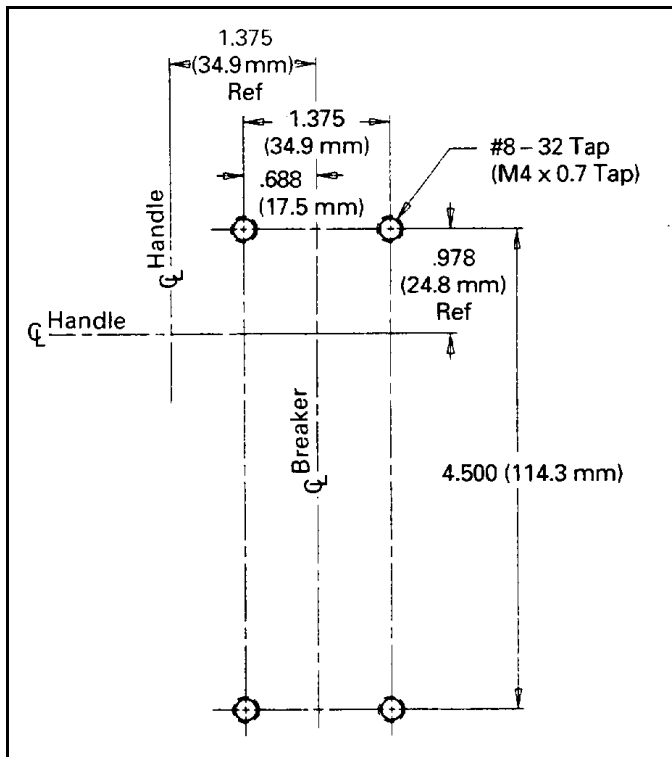

Fig. 2-1 Drill & Tapping Plan for F-Frame Breaker
1. Determine position for circuit breaker in enclosure. Drill and tap circuit breaker mounting holes in enclosure mounting surface as shown in Figure 2-1.